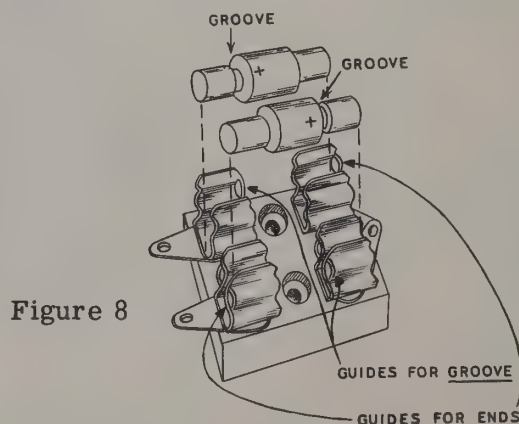

Figure 8
- (✓) Install the silicon rectifiers in the socket, being careful to mount them exactly as shown in Figure 8 and Pictorial 2 on Page 17.